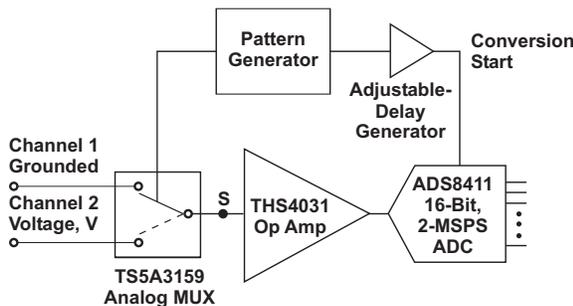

Figure 1. Settling Time Evaluation Setup
The ADC used here is the Texas Instruments (TI) ADS8411, which is a 16-bit, 2-MSPS successive approximation register (SAR) ADC. The driver op amp is the TI THS4031. Figure 1 shows the evaluation setup.
The analog MUX is switched from channel 1 to channel 2 at instant A in Figure 2. This diagram shows the voltage at point S (Figure 1) when the MUX switches over to channel 2 from channel 1. The settling time of the MUX is denoted by  $t_s$ . It is assumed that  $t_s$  is much shorter than the op amp settling time.
The first ADC sampling edge appears at instant B, and n number of readings (digital outputs from the ADC) are taken. The n number of readings are averaged for better accuracy (discussed later). Next the sampling edge is shifted to the left by 1 ns (Figure 3) with the help of a pattern generator and an adjustable-delay generator (Figure 1), and again n number of readings are taken. This way the sampling edge is shifted toward the left from instant B to instant A in 1-ns steps. At each sampling edge the average is stored in an element of an array. The array is plotted against the time to get the true picture of the op amp output settling (Figure 3).